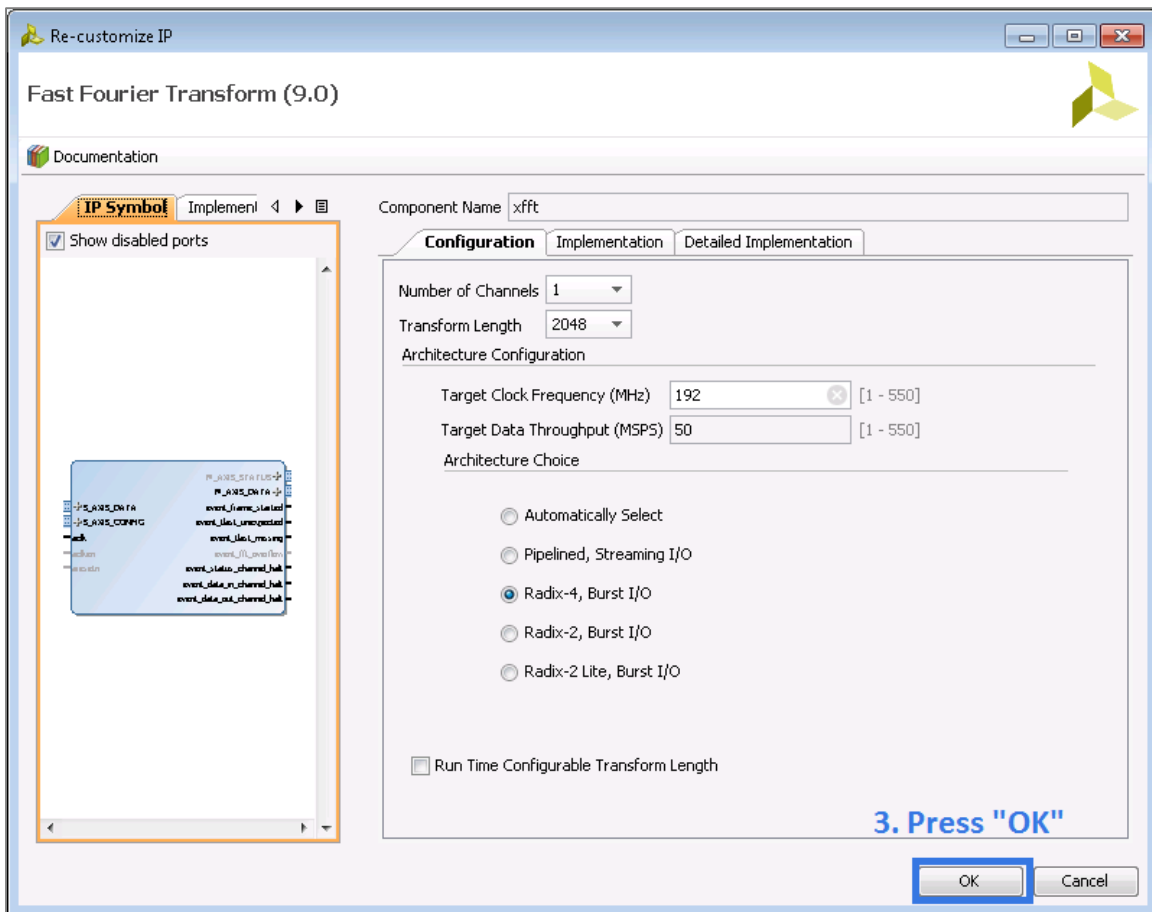

Figure 109 - How to reconfigure a Xilinx IP Core (2)
- Inside the “Re-customize IP” dialog, leave the settings untouched and click **OK** as shown in Figure 109.